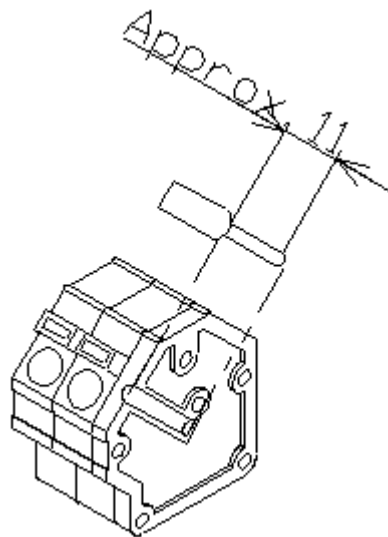

Figure 20: Strip Gauge on the Terminal
2. Peel off the cable coating to the length that corresponds to the strip gauge on the terminal, as indicated in Figure 20.